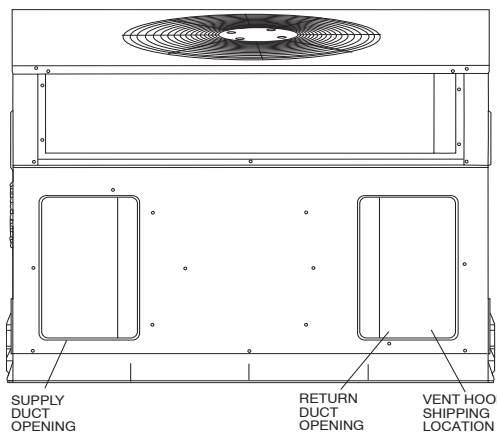

Fig. 9 - Supply and Return Duct Opening
The flue assembly is secured and shipped in the return air duct. Remove duct cover to locate the assembly (See Fig. 9 and 10).
- Remove flue hood from shipping location (inside the return section of the blower compartment—see Fig. 9 & 10). Remove the return duct cover to locate the flue hood. Place flue hood assembly over flue panel. Orient screw holes in flue hood with holes in the flue panel.